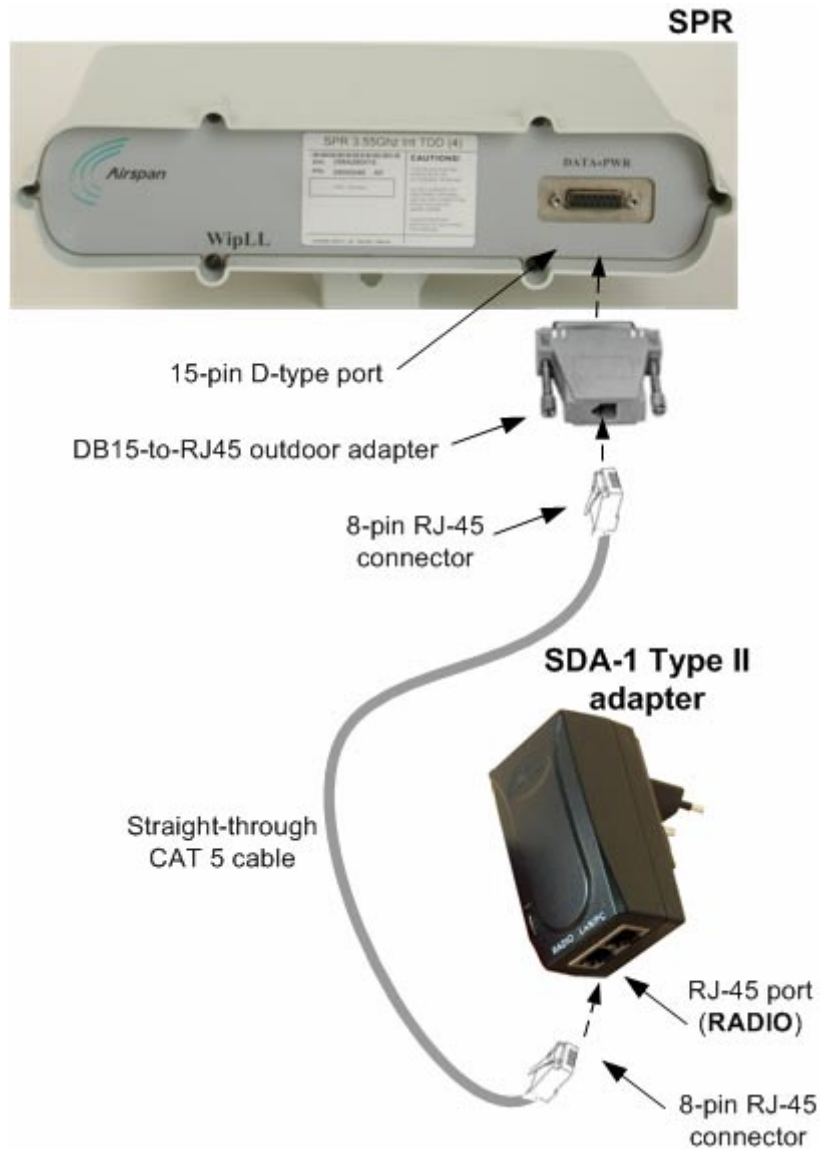

Figure 14-2: SPR to SDA-1 Type II cable connections
- For SDA-1 Type II: connect the **RJ-45** connector to the SDA's **RJ-45** port labeled **RADIO** (see Figure 14-2)